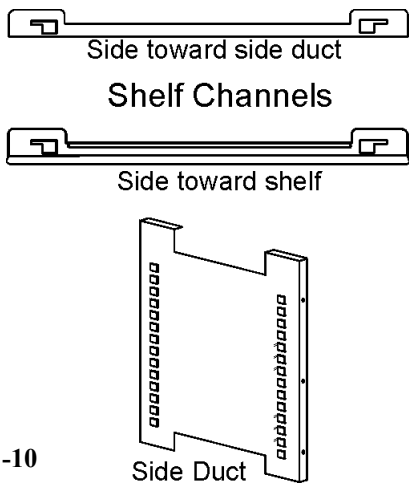

Figure 1-10
1. Install the side ducts with the tabs facing into the center of the chamber with their slots up. There are no right side or left side ducts, simply rotate one of them to fit the opposite side. Tilt the side ducts as they are placed in the chamber so the tops fit into the top air duct, then guide them into the vertical position. Figure 1-10 shows the duct as it would be oriented for the right side of the chamber.
2. Referring to Figure 1-10, note that there is no difference between left and right side shelf channels.